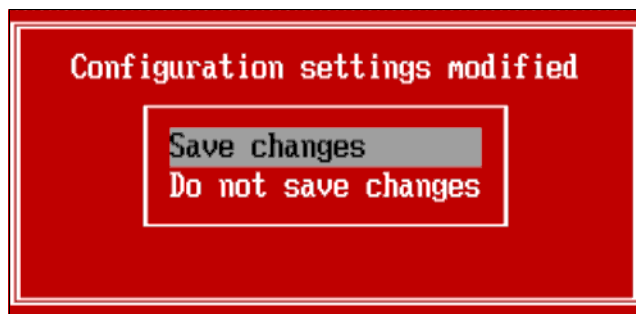

Figure 2-19 Save Changes
6. Press Esc two times until you see a red panel saying *Configuration settings modified*, as shown in Figure 2-19. Select **Save Changes** to save the changes made to the HBA settings.